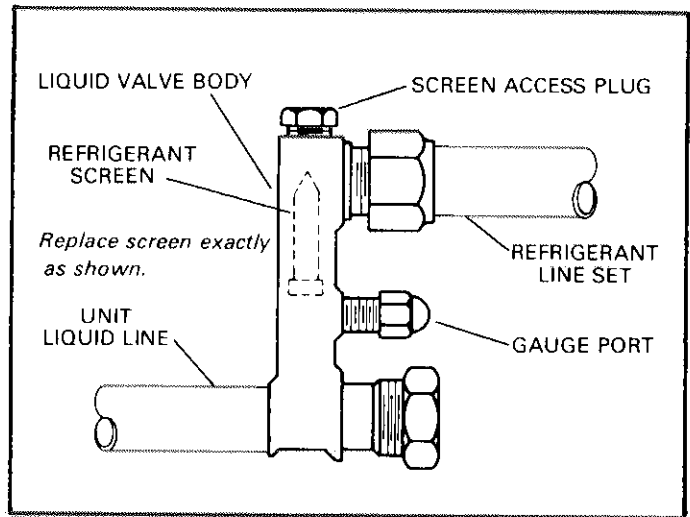

FIGURE 5
- 4 - Install replacement screen in valve body as shown in Figure 5.